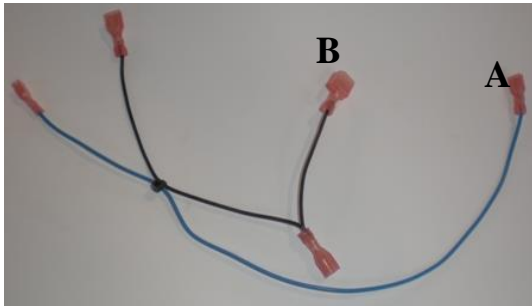
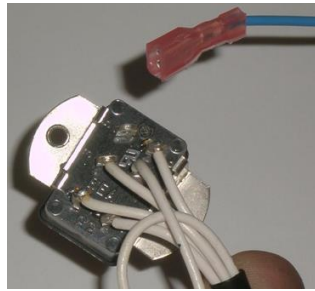

Figure 8A
Figure 8B
21. Attach the end of the blue wire (labeled A, Figure 8A) to the open pin on the back of the factory wiring harness plug (Figure 8B).
22. Connect the end of the black wire (labeled B, Figure 8A) to the #4 motor common wire (Figure 8C). The common wire will be labeled with a “G” and will be the larger of the two terminals. Wrap with electric tape to cover the exposed section where the expansion harness connects to the factory harness. When completed the assembly will appear like in Figure 8C.